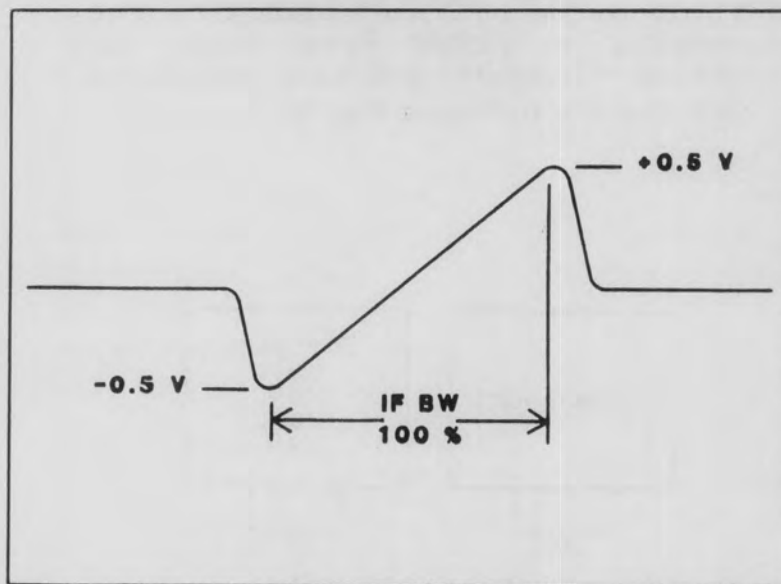

Figure 4-16. FM Detector S-Curve
5. Locate module A2A5A1. Refer to **Table 4-6** and locate the components corresponding to the IF bandwidth indicated on the receiver front panel display. Adjust the components indicated in **Table 4-6** for an indication on the oscilloscope as shown in **Figure 4-16**.
6. Repeat steps 5 and 6 for receiver IF bandwidth positions BW #2 (module A2A5A2), BW #3 (module A2A5A3) and BW #4 (module A2A5A4). In each bandwidth, adjust the components indicated in **Table 4-6** for an indication on the oscilloscope as shown in **Figure 4-16**.